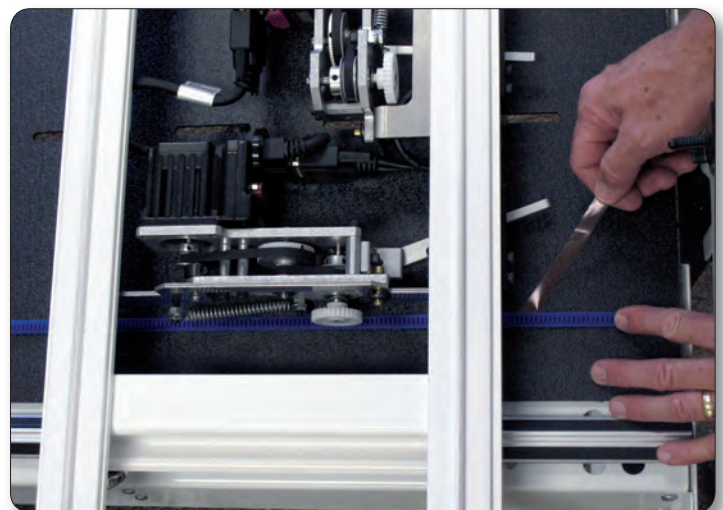

Figure 2
**3.** Starting at one end of the table, begin mounting the blue flexirack to the table surface. Using the X-axis engagement lever, drop the white X-axis gear so it engages with the blue flexirack. With the blue flexirack in position under the white gear, begin peeling the pink protective layer from the back side of the blue flexirack and pressing down on the blue flexirack to stick it to the table surface (Figure 2).